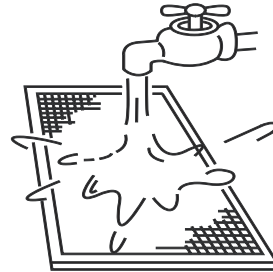

Fig.5-16
- The air intake side should face down when using clean water. (Refer to Fig.5-16)